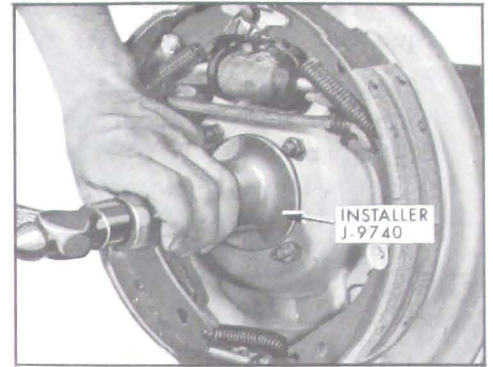

Fig. 6-53—Installing Axle Shaft Oil Seal
3. Position seal over Installer J-9740 and drive seal straight into housing until installer bottoms against wheel bearing shoulder. See Figure 6-53.